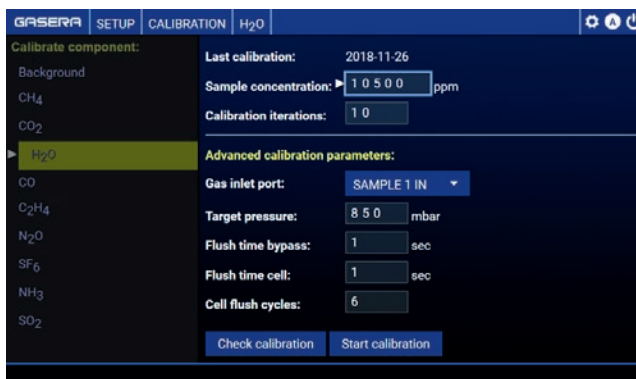

Figure 73. Calibration view displaying settings for H2O component calibration.
**Calibration** view under Setup menu enables instrument recalibration. Figure 73 presents the example of calibration configuration for H2O components.